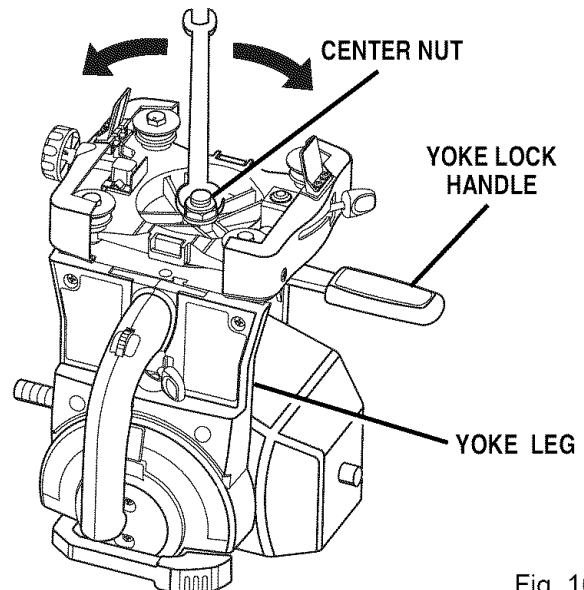

Fig. 16B
- Remove the arm cap screws and arm cap at the front of the arm with a phillips screwdriver. See Figure 16B.